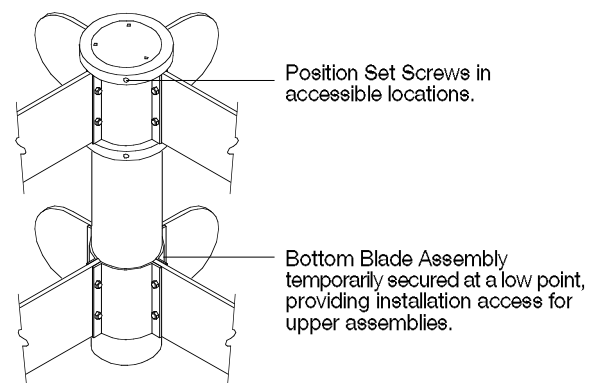

Fig. 6
3. Slide the bottom level Blade Assembly over the Post, positioning it at a point lower than its final location. (Refer to Fig. 6) This will provide space required for assembling the upper levels. Use two 9/16" wrenches (not provided) and temporarily secure assembly to Post.
5. If a Decorative Ring is used at the top, position it accordingly and tighten set screws. **Note:** Decorative Rings can be attached to Post in virtually any location. However, illustrations of your sign are generally provided for predetermined placement. Also, prior to tightening, it is helpful to assure set screw locations are oriented so as to be accessible with a hex wrench. (Refer to Fig. 6)